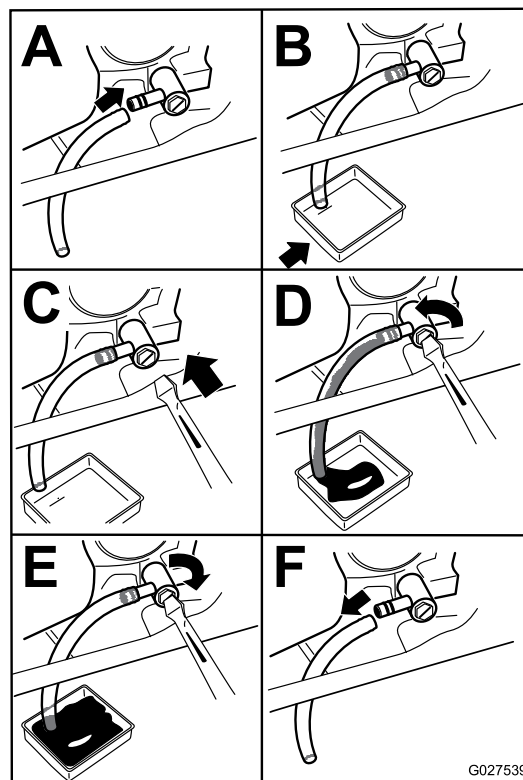

Figure 45
4. Drain the oil from the engine (Figure 45).